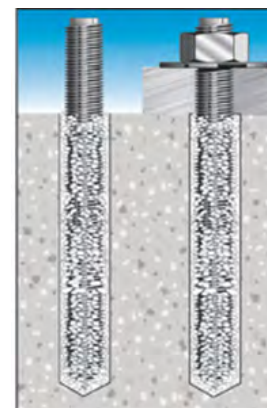

Figure 5.1C
5.1.6 Wait until adhesive has fully cured before loading as shown in Figure 5.1C.